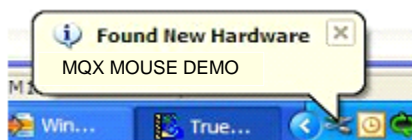

Figure B-1. Find New Hardware callout
1. Connect the hardware to the Windows host computer. As soon as you turn on the device, the HID device gets installed onto the Windows host computer. You should see the callout as shown in Figure B-1 on the right bottom corner of your screen. At this point, the windows installs the host driver for the device.